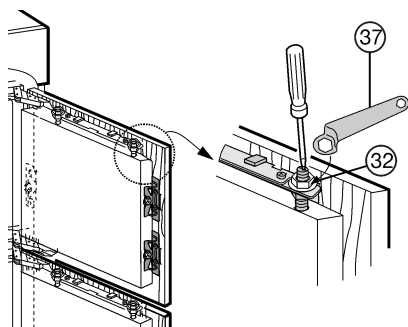

Fig. 30
- ▶ Tighten the locknuts Fig. 30 (32) with the ring wrench Fig. 30 (37) while bracing the adjusting bolts Fig. 30 (33) with a screwdriver.